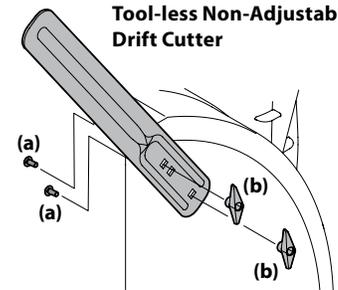

Figure 2-44
1. Remove two carriage bolts (a) and wing nuts (b) that secure each drift cutter, and remove them from the sides of auger housing. See Figure 2-44.
2. Turn the drift cutters around and position them as shown in Figure 2-44 to the outside of the auger housing.